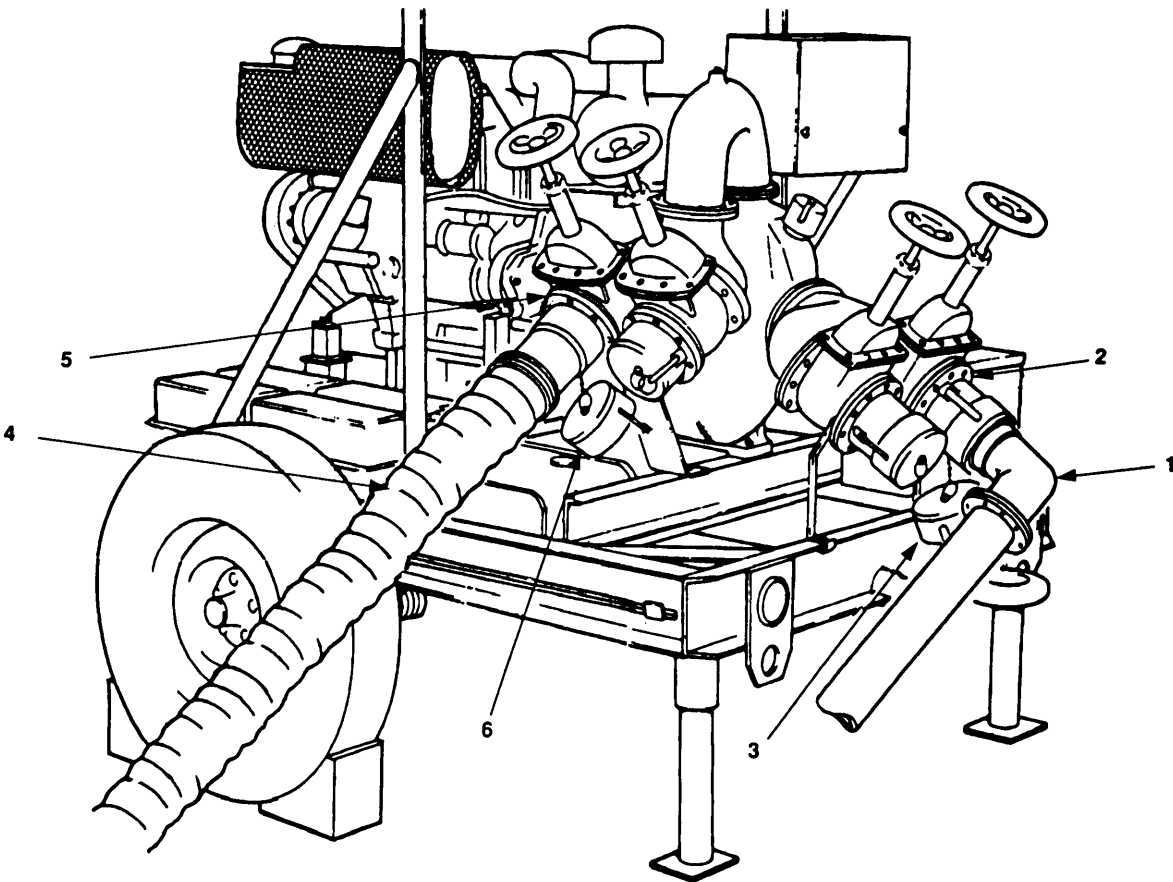

Figure 2-8. Disconnecting Suction and Discharge Hoses.
- b. Disconnect suction hose (1, figure 2-8) from coupler half (2) and connect quick disconnect plug (3) to coupler half (2).
- c. Disconnect discharge hose (4) from coupler half (5) and connect quick disconnect cap (6) to coupler half (5).